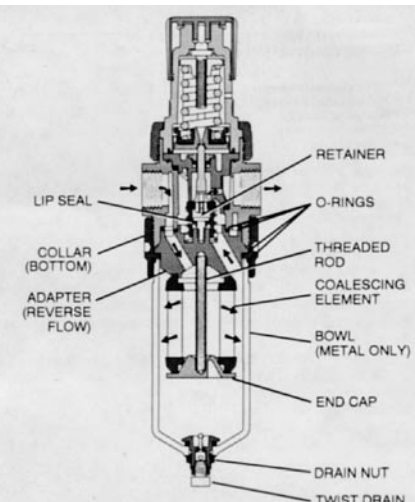

Figure 2: 12E
B. 12E Units (Refer to Figure 2.)
### B. 12E Units - (Refer to Figure 2.)